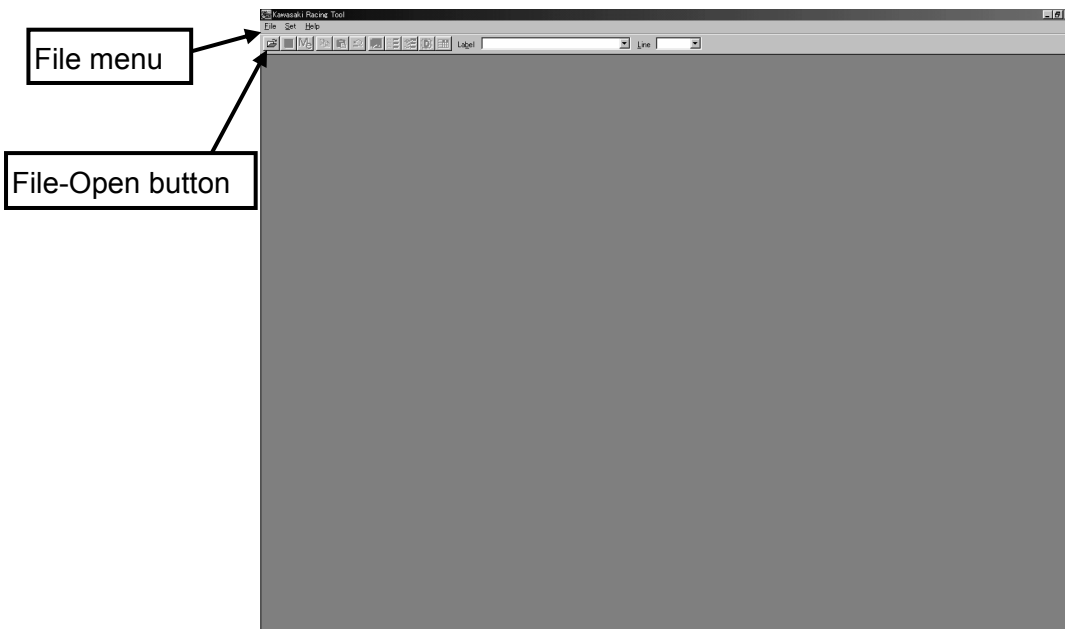

Fig. 90 Initial Screen
- (2) At the initial screen shown in Fig.90 load the data file (EST file) to be edited.